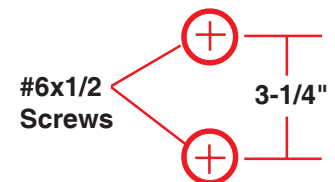

Figure 3
STEP 4. Mount the two #6 screws vertically 3-1/4" apart leaving screw heads approximately 1/8" from wall. See Figure 3.